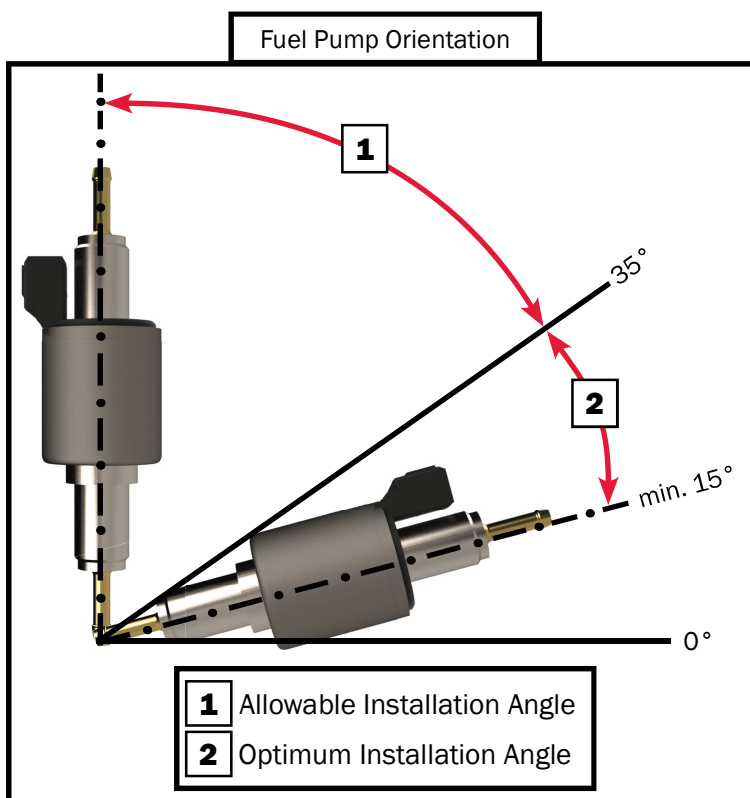

Figure 77
- The outlet of the fuel pump is required to be installed upwards. The angle should be between 15°-35°. See Figure 77 for fuel pump orientation.